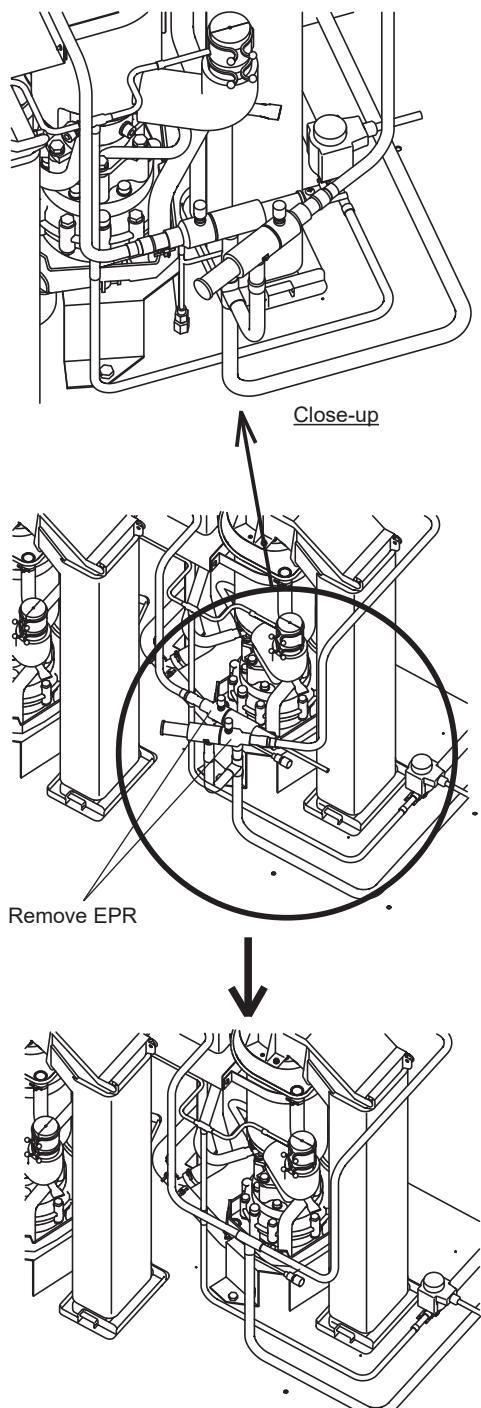

Fig. 8
- 1) If suction pressure of the condensing unit exceeds 0.10 MPa (1.05 bar), remove the EPR (evaporating pressure regulator) from the suction line. See Fig. 8.